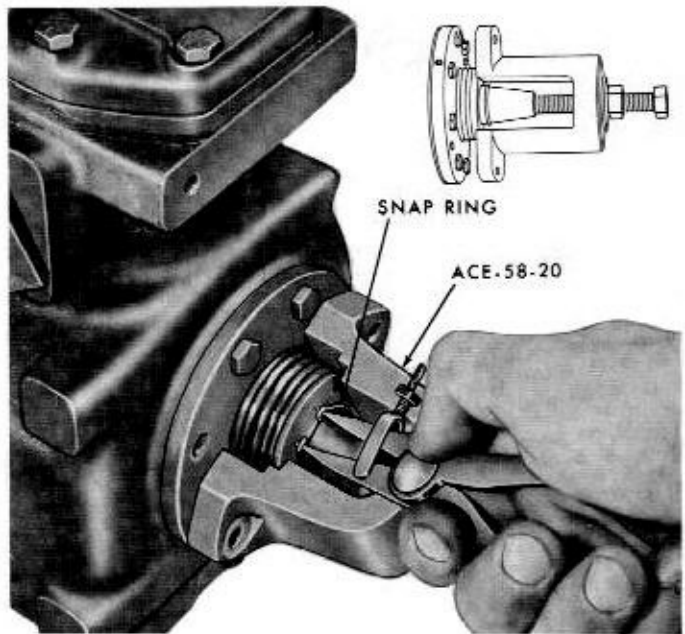

Fig. 8-6—Removing the Compressor Shaft Snap Ring
3. Compress the bellows seal assembly with tool ACE-58-20 and remove the snap ring. (See figure 8-6.)
12. Position the bellows seal assembly on the compressor shaft. Install tool ACE-58-20 and compress the bellows; then, install the snap ring. (See figure 8-6.)